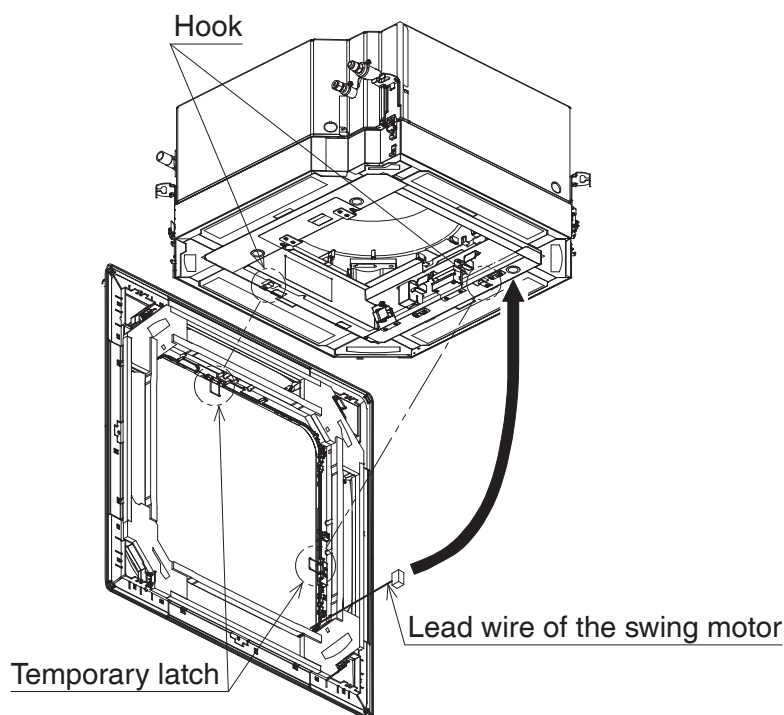

Figure 15
1. Attach the decoration panel after hooking the temporary latches of the decoration panel to the hooks of the UV streamer air purifier unit. (Refer to **Figure 15**.)